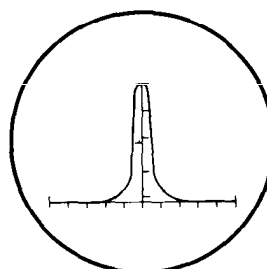

Figure 7
- () Alternately adjust the cores of transformers T2 and T3 for the most symmetrical pip (as shown in Figure 7) while maintaining maximum pip amplitude.